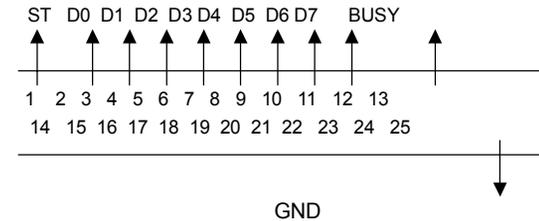

Figure 5-3 Printer interface signal
a. It adopts standard parallel output, and we use a 25-core RS232 socket as its connector. The meaning and arrangement of holes at the indicator side is as Figure 5-3